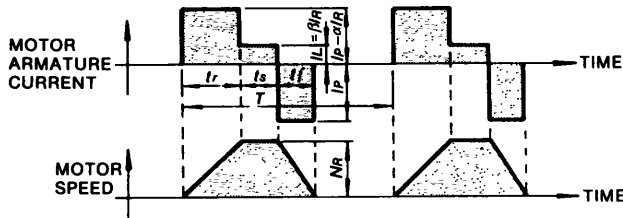

Fig 4 3 Timing Chart of Motor Armature Current and Speed
- When the motor remains at standstill between cycles of acceleration and deceleration without continuous rated speed running (Fig 4 4)